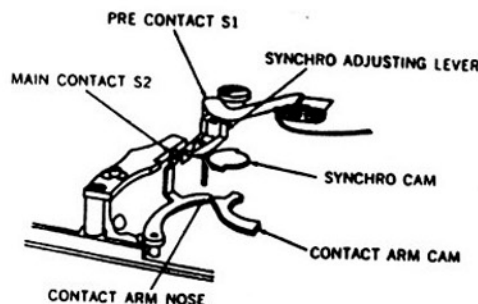
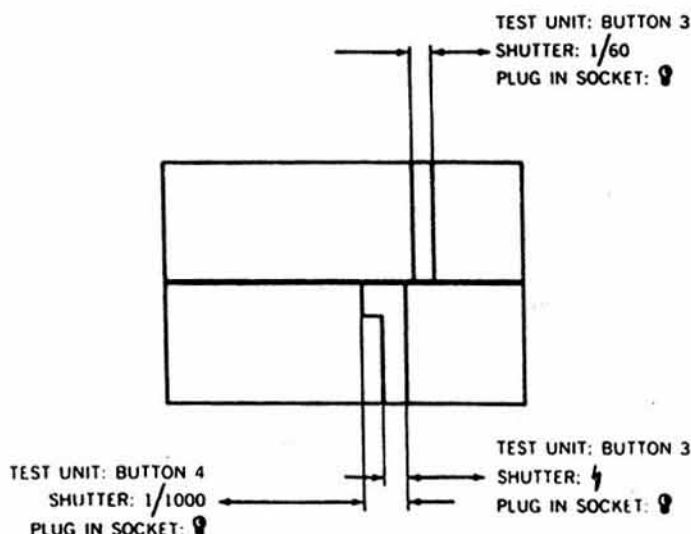
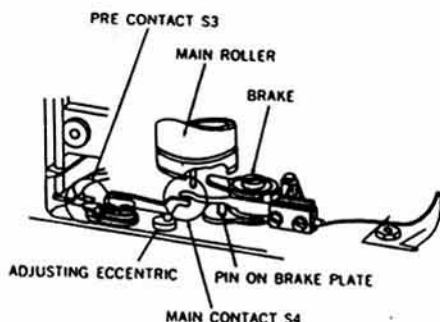

Figure 4-13. Flash Bulb Synchronizing Adjustments.
Figure 4-14. Flash Bulb Synchronizing Pattern.
Figure 4-15. *Electronic Flash Synchronizing Adjustments.*
a. *Checking and adjusting Flash Bulb Circuit* (fig. 4-13). Set the voltage selector switch of test instrument 42-531-Z1W13 to 500-volts. Connect the camera flash lamp socket to the test instrument with connecting cord 42-253.04.
- (3) *Checking contact closing* (fig. 4-13). Set the selector switch to "L", wind the camera shutter, and set the shutter speed dial to "B". Depress the shutter release. The indicator lamp must light. Repeat the operation for each of the shutter speeds, noting that the lamp lights each time the shutter is released. If it does not, check the contact points of switches S-1 and S-2, and correct the fault.
b. *Checking and Adjusting Flash Bulb Synchronization* (fig. 4-13, 4-14). Connect the camera's flash lamp socket to test instrument 42-253.01-Z1W109 with connecting cord 42-253.04. Remove the camera hinged back and insert tolerance pattern 42-253.01-Z1A96 in the film aperture. Position the camera lens mounting flange over the test instrument opening.
- (1) Depress button (4) on the test instrument.
- (2) Wind the shutter, and set the shutter speed dial to 1/1000-second.
- (3) Release the shutter, and observe the position of the shutter slit on the pattern plate. The shutter opening should coincide with the wide pattern on the plate (fig. 4-14). If it does not, proceed as follows:
- (a) Bend the main contact (S-2), fig. 4-13 with tool 42-253.01-U443W5.
- (b) Repeat the test in (3) above, and readjust the main contact until the shutter slit coincides with the 1/1000-second pattern on the plate.
- (4) Depress button (3) on the test instrument.
- (5) Wind the shutter, and set the shutter speed dial to 1/60-second.
- (6) Release the shutter, and observe the position of the first shutter curtain on the pattern plate. The edge of the shutter should fall within the narrow pattern on the upper part of the plate (fig. 4-14). If it does not, proceed as follows:
- (a) Bend the contact arm nose (fig. 4-13) with tool 42-253.01-U443W6. Bending the nose toward the cam increases the delay of contact closing. Bending the nose away from the cam decreases the delay.
- (7) After making a synchronizing adjustment, recheck and adjust alternately between 1/1000-second and 1/60-second until both settings are correct.
c. *Checking and Adjusting Electronic Flash Circuit* (fig. 4-15). Set the voltage selector switch of test instrument 42-531-Z1W13 to 1,000-volts. Connect the camera electronic flash socket to the test instrument with connecting cord 42-253.04.
- (1) *Checking insulation.* Set the test instrument selector switch to "I".
- (d) If current leakage is indicated by tests (b) and (c) above, trace the circuit with test leads 103.25.18. Check for a short in pre-contact switch (S3). fig. 4-15, or a short in main contact switch (S4). Check for faulty insulation.
- (2) *Checking conductivity.* Set the test instrument selector switch to "D".
d. *Checking and Adjusting Electronic Flash Synchronization* (fig. 4-15, 4-16). Connect the camera electronic flash socket to test instrument 42-253.01-Z1W109 with connecting cord 42-253.04. Remove the camera hinged back and insert tolerance pattern plate 42-253.01-Z1A97 in the film aperture. Position the camera lens mounting flange over the test instrument opening.
- (1) Depress button (6) on the test instrument.
- (2) Wind the shutter, and set the shutter speed dial to the electronic flash symbol (1/50-second).
- (a) *Adjusting first shutter curtain pattern* (fig. 4-15, 4-16). Position the adjusting eccentric (fig. 4-15) with tool 42-253.01-76W2 until 0.5mm of the first curtain shows in the left rectangle of the pattern plate (fig. 4-16).